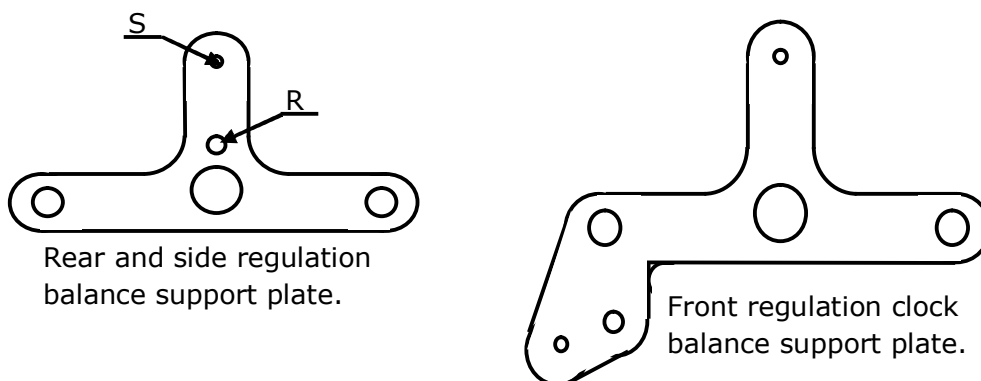

FIGURE 5.4b: Sketches of balance support plates found in various "CE" clocks.
Fig. 5.4a & b below show some of the variations found in these clock movements. The hole marked "S" in fig. 5.4b is the rear bearing for the centre wheel assembly (14) and varied in diameter being larger on rear (remote) setting clocks. The hole marked "R" in fig. 5.4b may only be present on rear regulation clocks.
FIGURE 5.4a: shows details of clock with rear regulation and remote time setting. Note large diameter boss on centre wheel assembly (large diameter hole in support plate) compared with small diameter shaft shown in fig 5.4b. Also slotted pinion for rear regulation. This pinion is held in place by a dished washer below the support plate and was only supplied as an integral part of the balance support assembly.